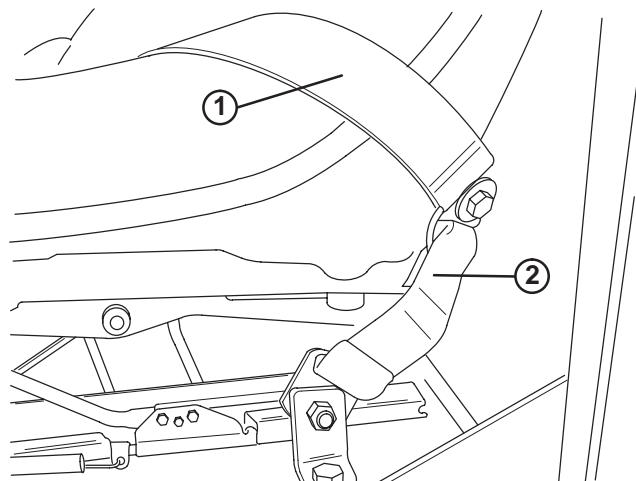

**Figure 10**
1. Remove manual tube and R-clamps secured to seat plate. Retain (2) mounting capscrews and flatwashers.
2. Loosely mount R-clamps to outer holes in right side of seat with (2) capscrews and flatwashers previously removed. (Fig. 10).
3. Install manual tube into R-clamps, insert manual into tube and thread cap into tube (Fig. 10). Tighten capscrews.